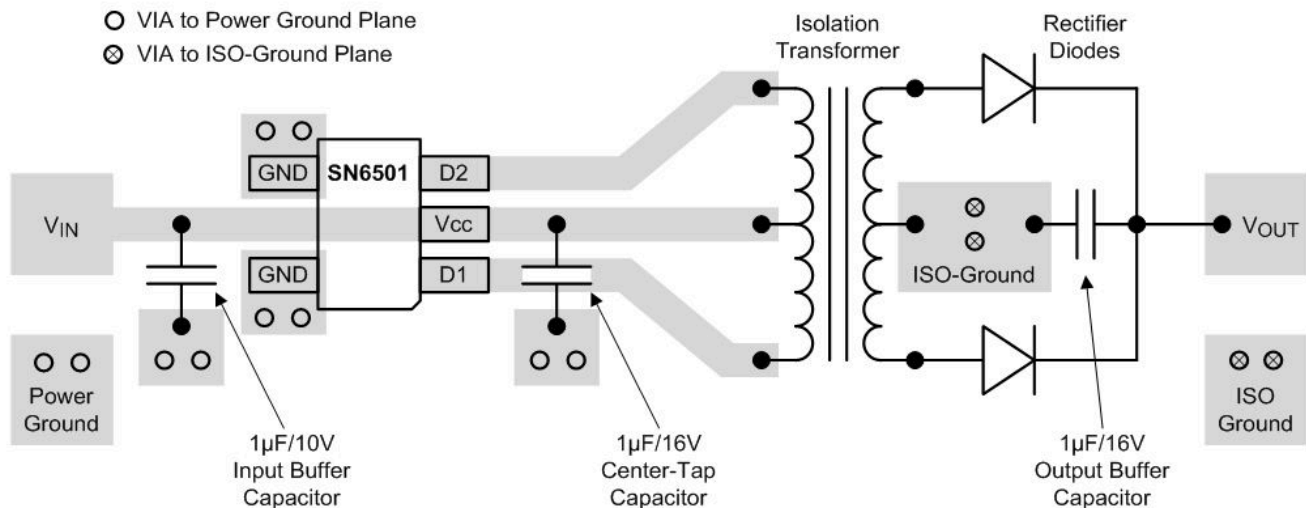

图 10-1. Layout Example of a 2-Layer Board (SN6501)
- The optimum placement is closest to the V_{IN} and GND pins at the board entrance to minimize the loop area formed by the bypass-capacitor connection, the V_{IN} terminal, and the GND pin. See Figure 10-1 for a PCB layout example.